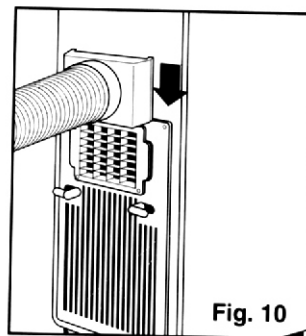

Fig. 10
- 1) Install the **Flexible Exhaust Hose** *Fig. 10* and the **Adjustable Window Kit** as depicted in *Fig. 2 & 2a (pg. 5)*.